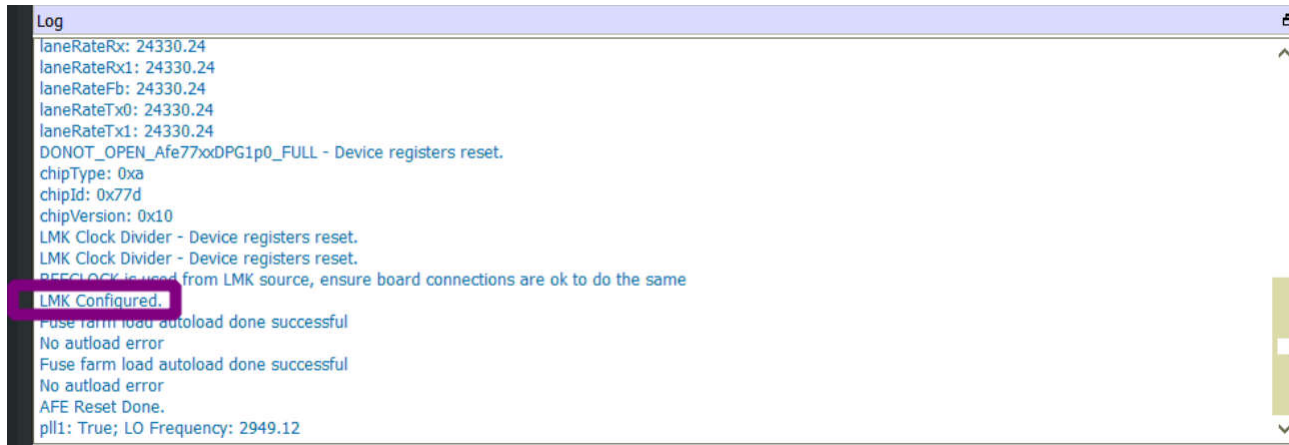
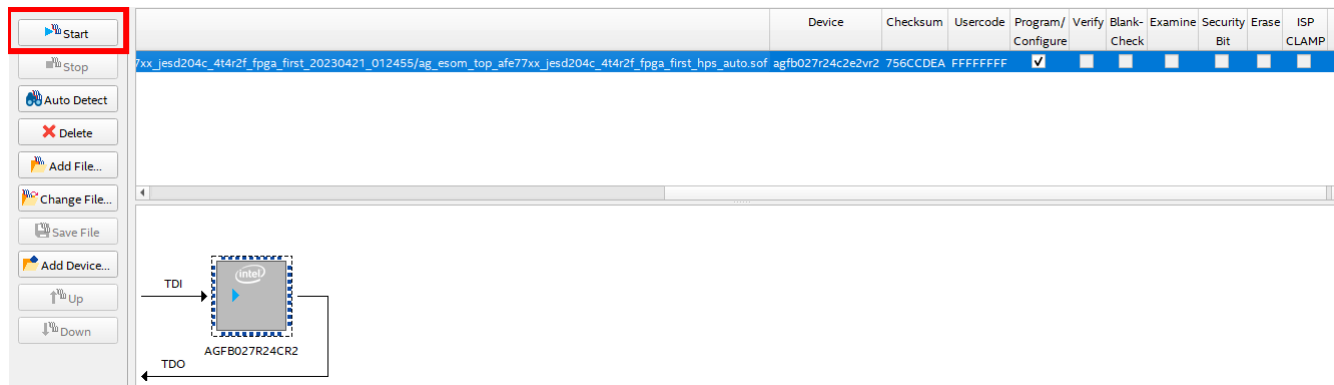

Figure 4-13. Confirmation of LMK Configuration in the AFE77xxD Latte GUI
Figure 4-14. Clicking the Start Button to Program the Agilex FPGA
19. Once the “LMK Configured” message appears in the TI AFE77xxD Latte software log window indicating completion of the LMK04828 chip configuration, program the Agilex FPGA image by clicking the “Start” button on Quartus Prime Programmer. Figure 4-13 and Figure 4-14 show a visual reference of the steps to program the device.